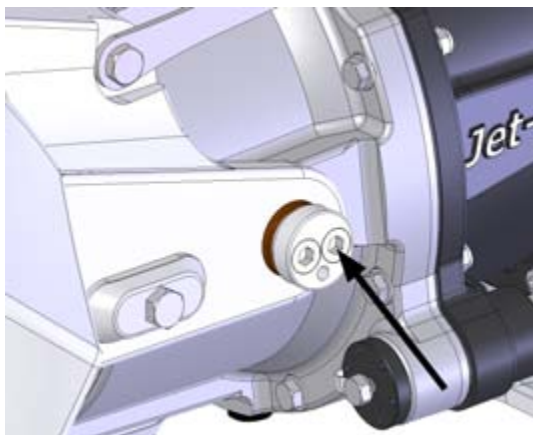

Figure 49. Joint peg screws
2. Open the four joint peg screws (2 pcs, figure 49).